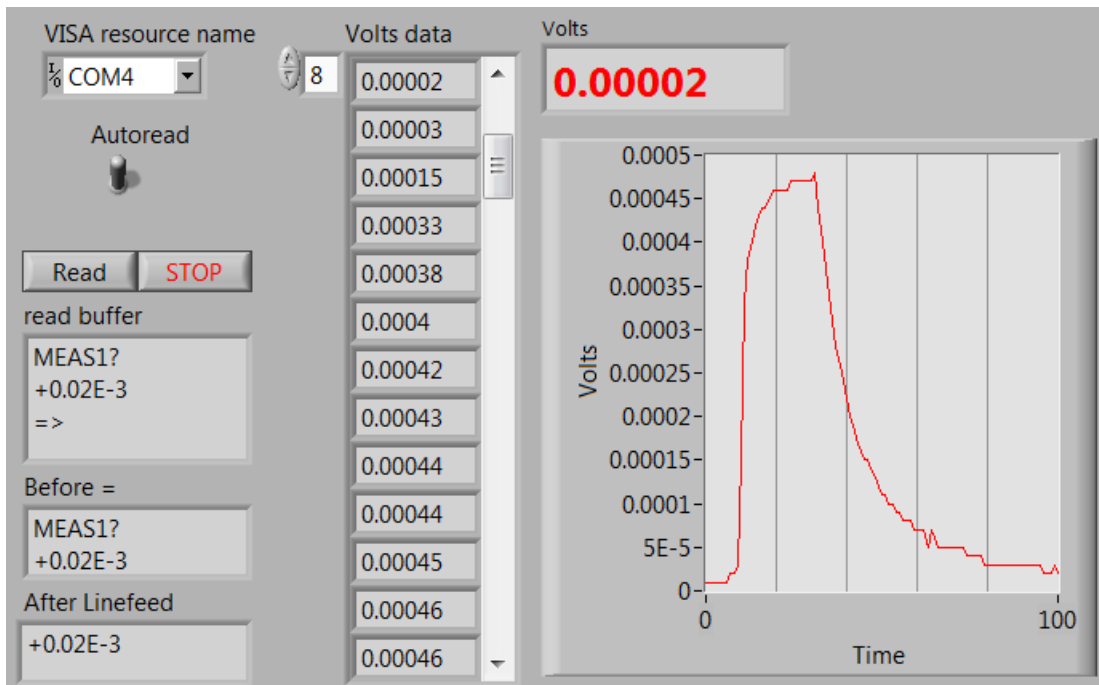

Figure 7.9: Front Panel of the Fluke 45 program showing the reading of a J-Type Thermocouple.
- 4) **Find the command** needed to write to the Fluke to read the display (meas1? Followed by a carriage return) and the message structure of the returned message to determine how to parse it and convert it from a string to a number. The message structure of the returned message is shown in Figure 7.9.